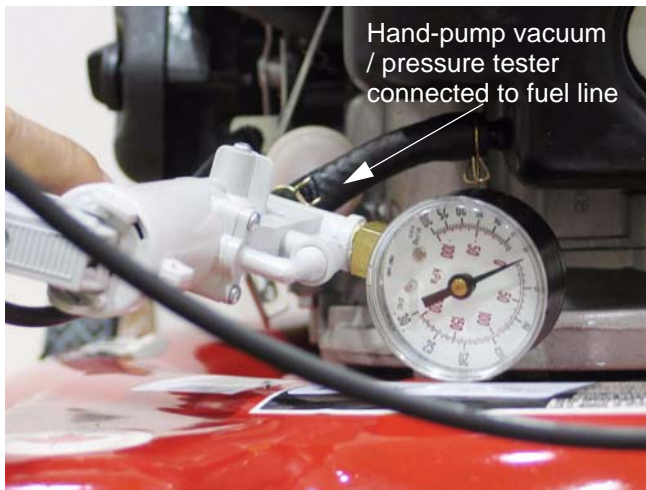

Figure 5.7
1. A hand-pumped vacuum / pressure tester may be connected to the fuel barb (after draining). See Figure 5.7.